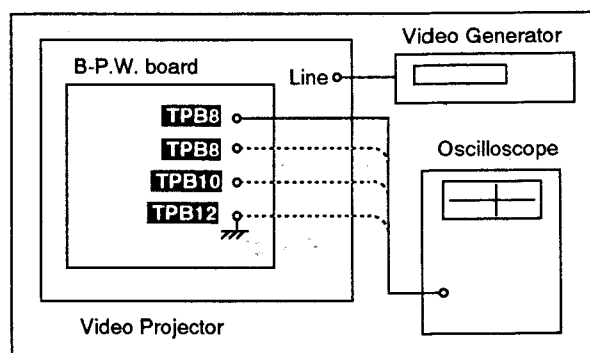

Fig. 44
2. Connect an oscilloscope to **TPB8** and **TPB12** (earth) as shown in Fig. 44.